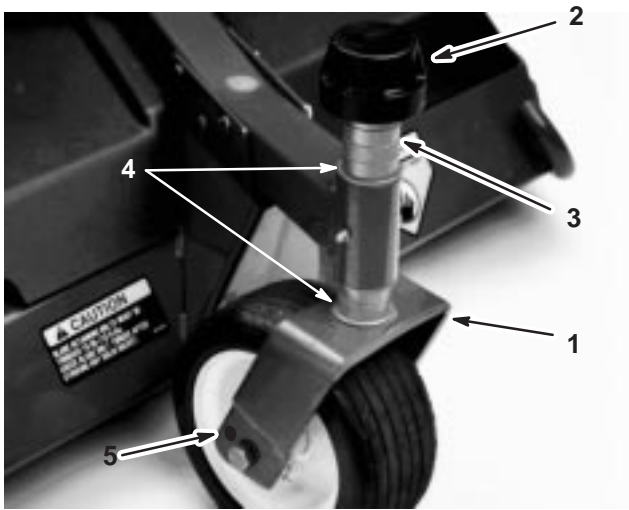

Figure 18
2. Drill out the 7/16 in. diameter holes (Fig. 18 and 19) in each side of the castor forks to 1/2 in. or 33/64 in. diameter.
1. Remove the tensioning cap from the spindle shaft and slide the spindle out of the front castor arm (Fig. 18). Remove the washer from the spindle shaft. Slide the spacers onto the spindle shaft to get the desired height-of-cut, then slide the washer onto the shaft.